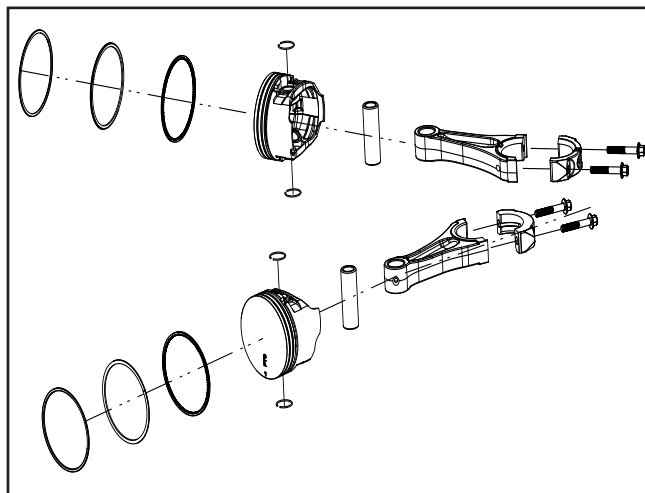

Figure 41
**NOTE: If difficult to remove, support the piston on a block of wood with a hole in it. Drive out the piston pin into the hole (Figure 41).**